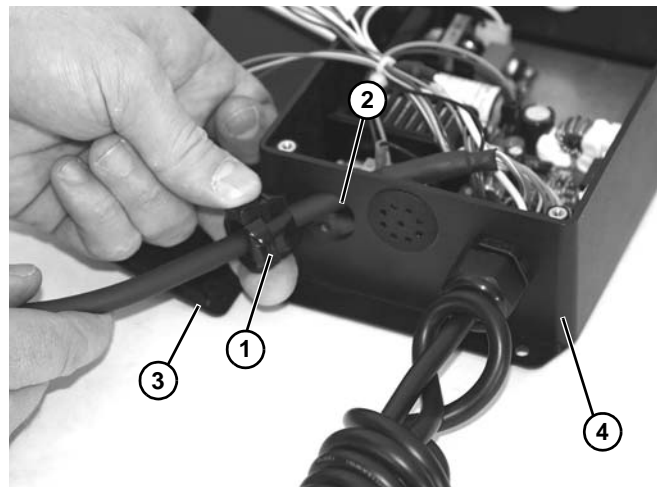

Figure 44
12. Insert cord retainer (**Figure 44, item 1**) into controller opening (**Figure 44, item 2**).
13. Install cover (**Figure 44, item 3**) with four screws and cover from controller (**Figure 44, item 4**).